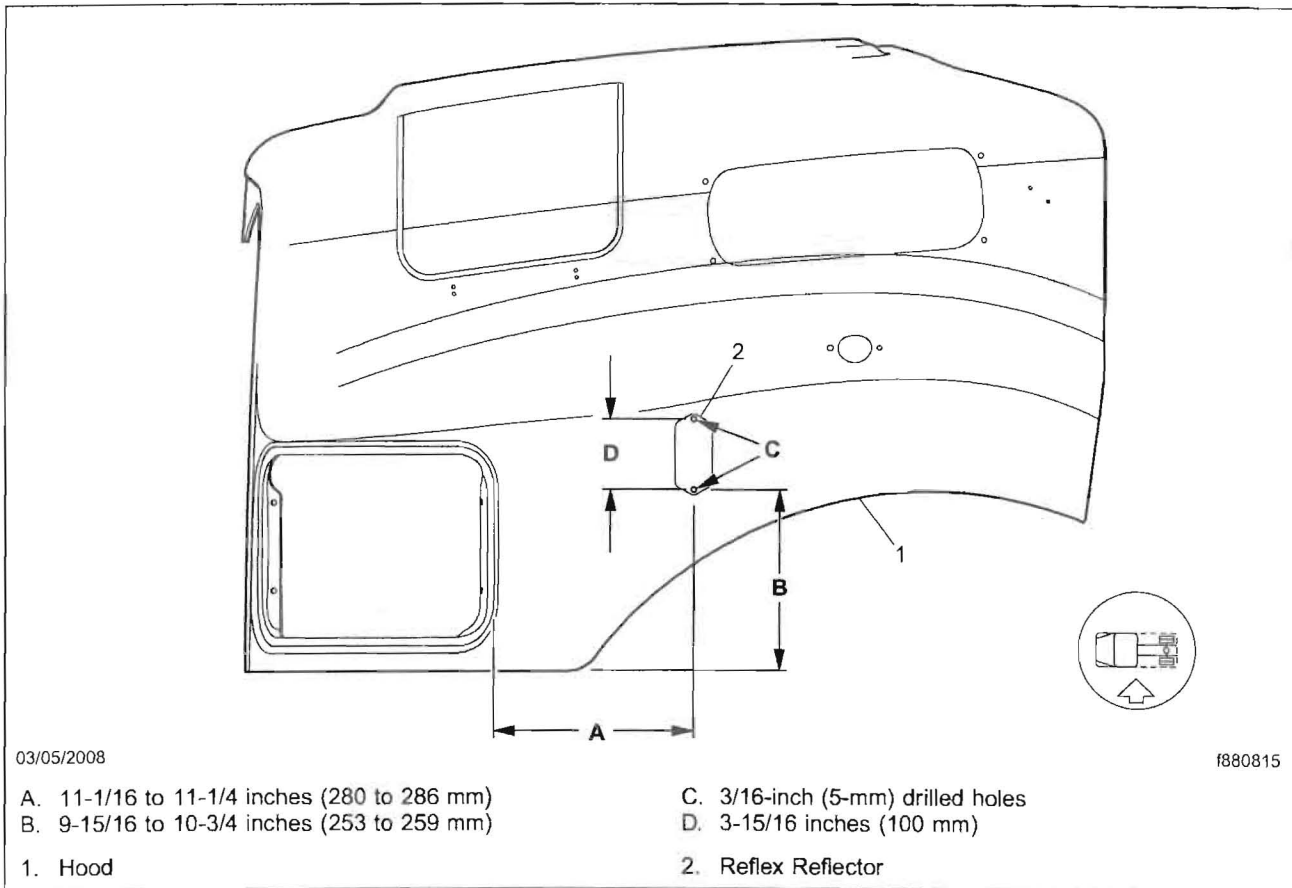

Fig. 1, Measurements for Reflex Reflector Installation (left side shown)
3. Mark both the LH and RH sides of the hood for drilling holes, as shown in **Fig. 1**. Make sure the marks are correctly aligned so that the reflectors will be vertical. If needed, place a level between the marks.